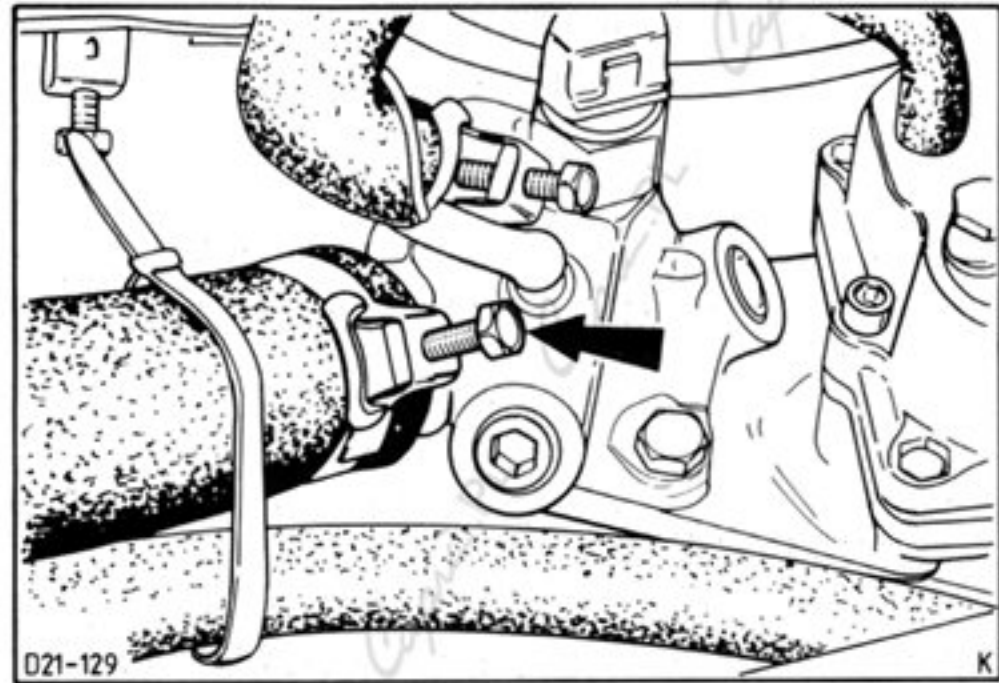

Fig.79. Detach upper radiator hose.
2. Drain coolant by disconnecting lower radiator hose from radiator and upper hose from engine water outlet, Fig.79.